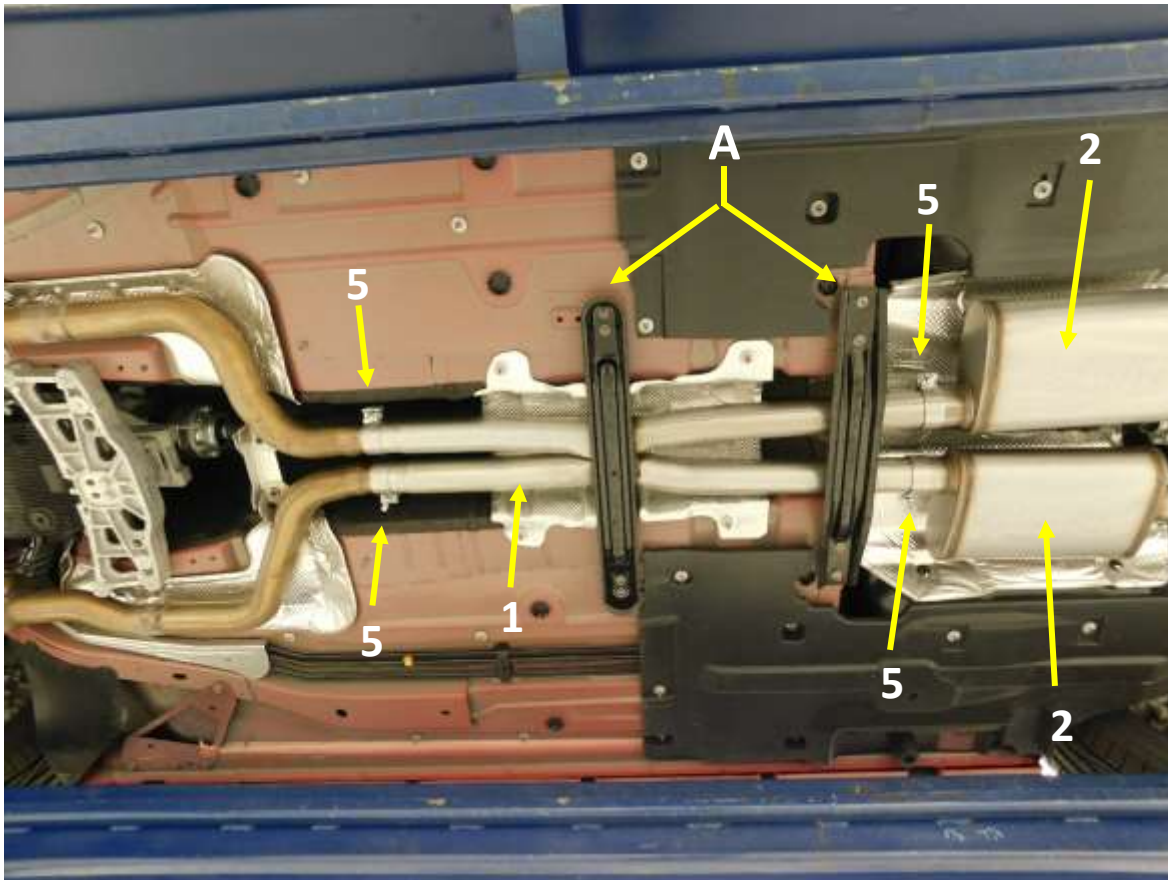

Figure 3
1. Install the (x2) transmission cross braces (A).
2. Install the Flowmaster Scavenger inlet pipe assembly (1) into the transmission tunnel and over the cross braces. **IMPORTANT:** Be sure the Flowmaster Logo in the center of the scavenger pipe is facing the ground.
4. Install a supplied 2.5" band clamp (5) on to the notched ends of the scavenger inlet pipe (1) with the bolts to the outside of the car and the nuts facing the ground. **Fig. 3**
5. Install the Scavenger inlet pipe on to the catalytic converter down pipes 2" deep. Tighten the clamps to hold the inlet pipe, but allow for adjustment. **Fig. 3**
6. Install a supplied 2.5" band clamp (5) on to the offset inlet of each muffler (2) with the bolts to the outside and nuts facing down. Install the muffler on to the Scavenger inlet pipe and tighten the clamps.